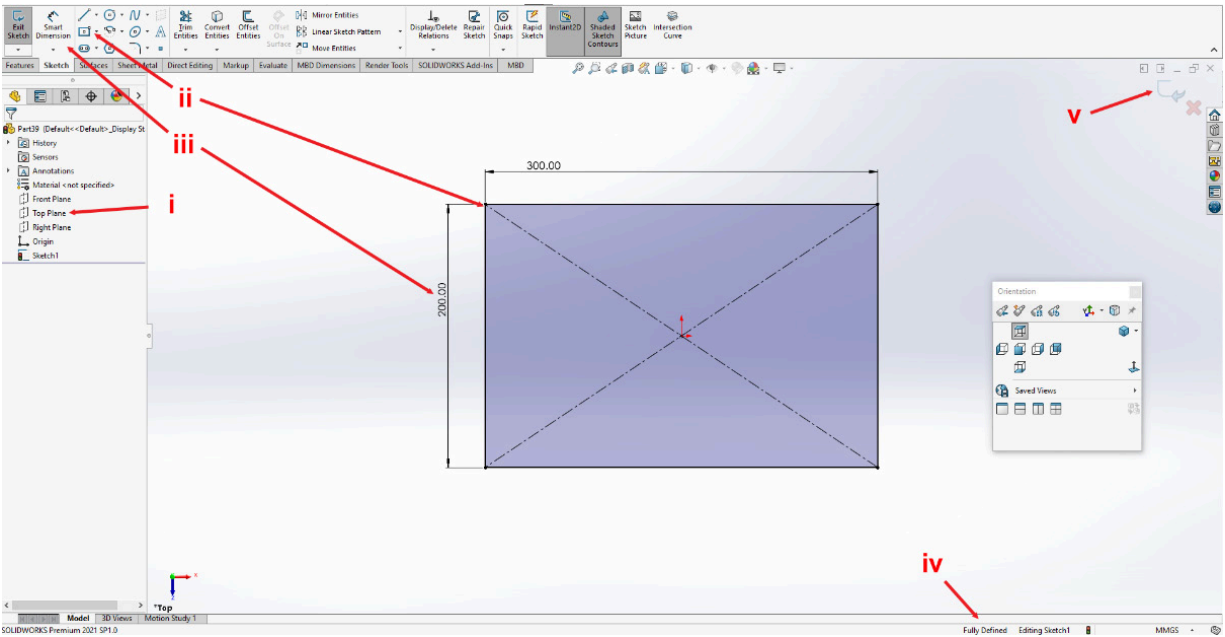

Figure 1.5: Sketching the Base Flange profile
2. Start a sketch on the appropriate Plane, such as the **Top Plane** (labeled **i** in *Figure 1.5*).
3. Sketch the **Base Flange** profile. Different profile types will be covered later in the chapter, but for now, simply create a closed profile, such as a **Center Rectangle** (labeled **ii** in *Figure 1.5*).
4. Fully Define the profile by using the **Smart Dimension** tool and linking it to the **Origin** (labeled **iii** in *Figure 1.5*). Make the rectangle **200mm** high and **300mm** wide.
During SolidWorks modeling, it is important to Fully Define sketches to ensure that the Sketch Entities are fixed and will not behave in unexpected ways, such as moving position. Fully Defined Sketch Entities will turn black, and when a sketch is Fully Defined, this will be indicated in the lower right of the screen (labeled **iv** in *Figure 1.5*).
5. Exit the sketch (labeled **v** in Figure 1.5).